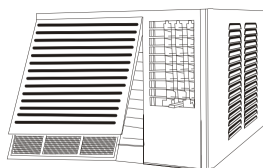

Figure 1
1. Remove the front panel. (Figure 1)